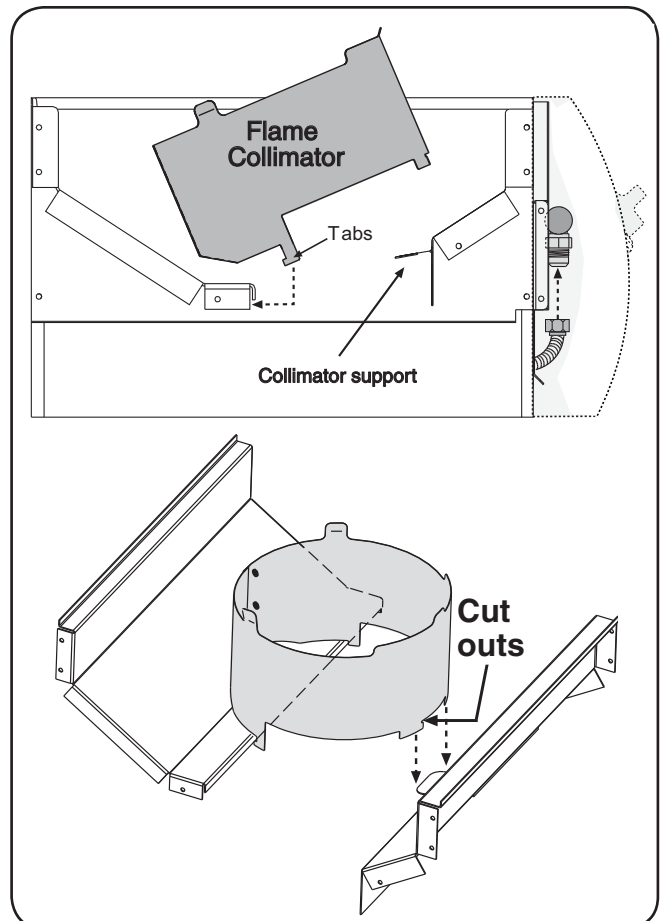

Fig. 15-3 Placing the flame collimator
1. Place the flame collimator over the burner with the tabs and cutouts resting on the inner liner shelf, as shown in Fig. 15-3. Flex the front of the collimator towards the burner until the cut outs fit down around the collimator support. This will lock your collimator into place. The flame collimator acts as a barrier for windy conditions and creates higher BTU concentration in the cooking grid.